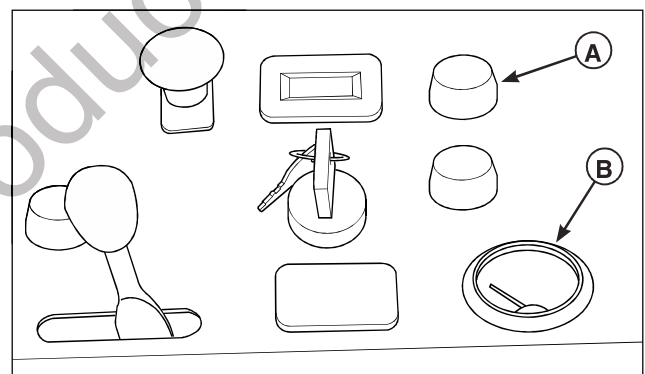

Figure 62. Deck Shut Down Module
- Immediately check your dash panel to see if the oil pressure indicator lamp (A, Figure 62) is lit or the water temperature gauge (B) is reading a high temperature.